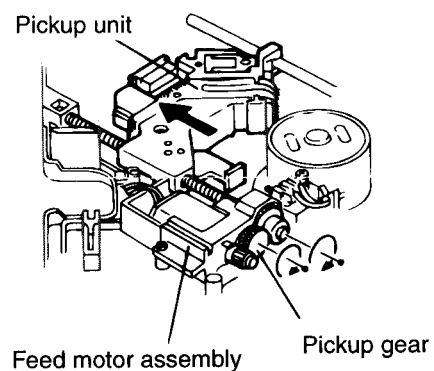

Fig.20
5. While tuning the pickup gear in the arrow direction as shown in Fig.20, shift the entire pickup unit.